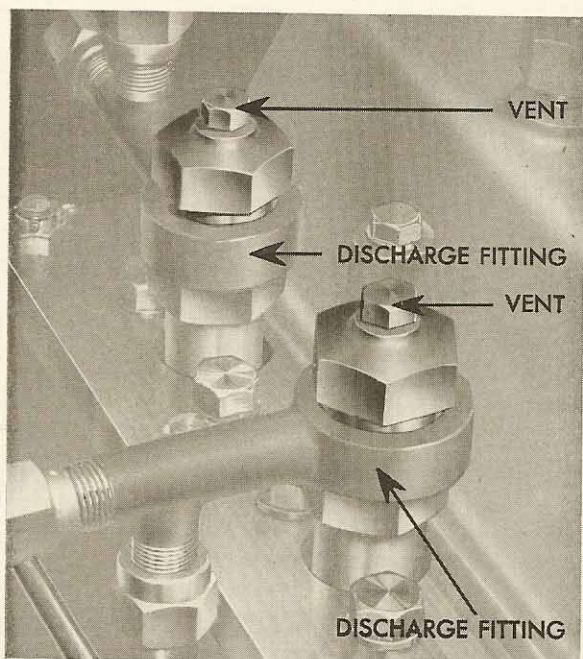

FIGURE 6-1
6. HIGH-PRESSURE FUEL PUMP: Open the two vents, shown in Figure 6-1, on top of the outlet fittings of the high-pressure fuel